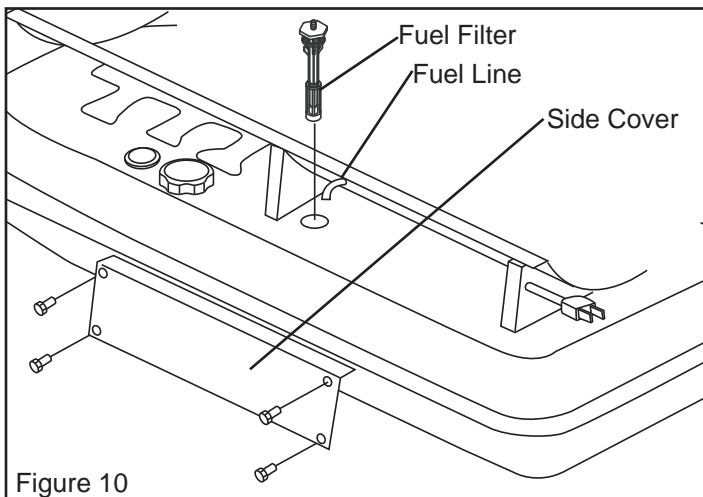

Figure 10
**NOTE:** To remove the filter from models 135 / 190 / 215-KFA turn filter 90° counter-clockwise. See Figure 10.